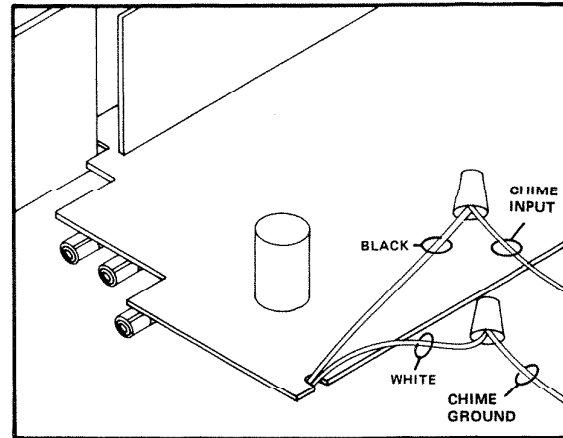

FIGURE 6
1. Connect two-conductor (IW-2 twisted pair) wires from electronic chime to the black and white wires shown in Figure 6.